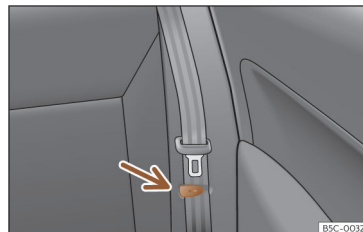

Fig. 98 Rear seat: clip to hold the seatbelt in place.
- Place the side seat belts in the trim clip >>> **Fig. 98**.